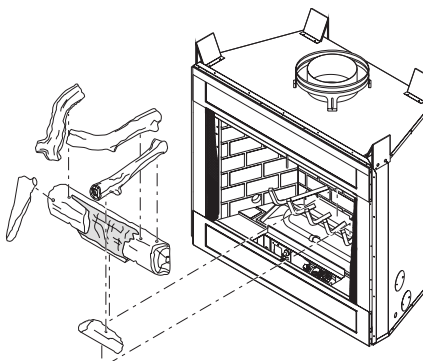

Figure 3 - Removing Logs Set
4. Remove logs. Carefully lift top logs straight up until pins are clear of lower logs (see Figure 3). Continue removing logs one at a time. The rear log is very heavy and should be lifted with both hands. Place logs away from your work area. Be careful not to damage logs.